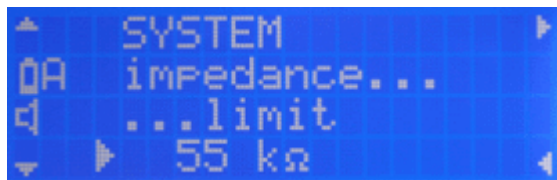

Figure 26: Main menu SYSTEM, submenu impedance limit
To change the settings of the impedance limit please follow these instructions (Figure 26):
- Switch to submenu impedance limit by pressing button 2 or 4 several times. Move the cursor to line 4 on the display by pressing button 3 (Figure 26).